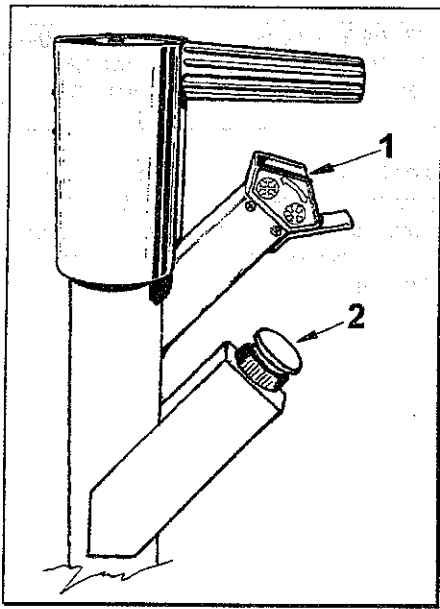

Fig.16
8. To open and close the chuck, operate the appropriate control (#1 Fig.16).
9. Press the Emergency STOP button (#2 Fig.16); this renders all controls inoperative.